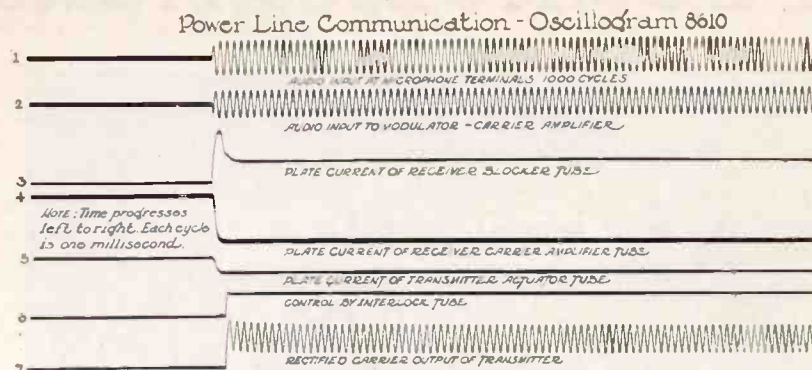
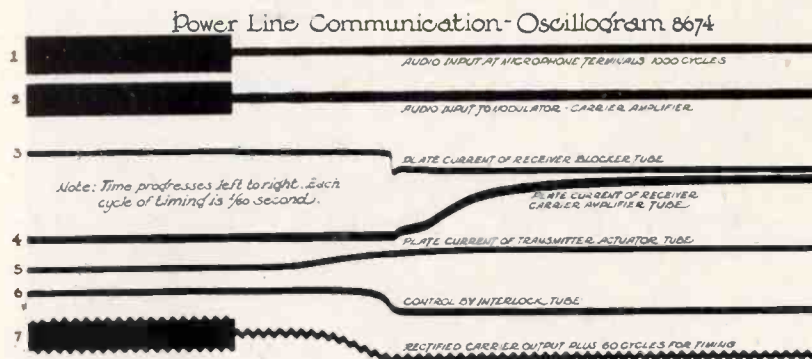

Fig. 3A—Oscillograms illustrating application of input tone
Fig. 3B—Oscillogram showing stopping of input tone
As shown in Fig. 3A, g_a , $g_b = g_c$, and g_c are the branch conductances of the symmetrical π , with the dissymmetrical π branch conductances, g_a' , g_b' , and g_c' given by Eq. (3) shown in Fig. 3B.